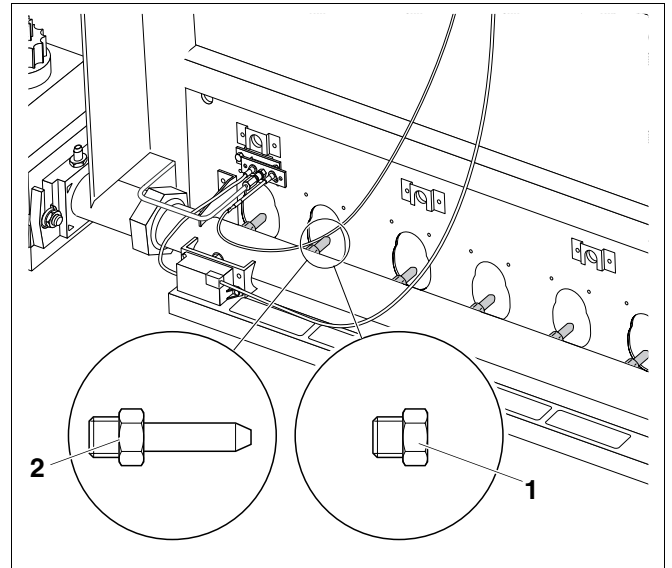

Fig. 6 Checking the main gas nozzle
- Ensure that the designation of the main gas nozzles (Fig. 6) correlates to Table 12), and convert to a different gas type, if necessary (see "Converting the boiler to a different gas type", page 48).